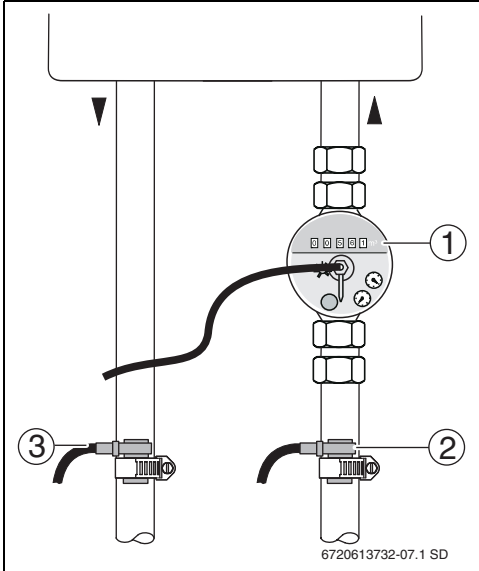

Fig. 11 Fitting the volumetric flow meter and temperature sensors
- Fit volumetric flow meter below the solar heating centre in the solar system return (Fig. 11, Item 1). Pay attention to direction of flow and fitted position (meter dial must not face downwards).
- Fix temperature sensor for solar system return (Fig. 11, Item 2) with jubilee clip supplied.
- Fix temperature sensor for solar system flow (Fig. 11, Item 3) with jubilee clip supplied.